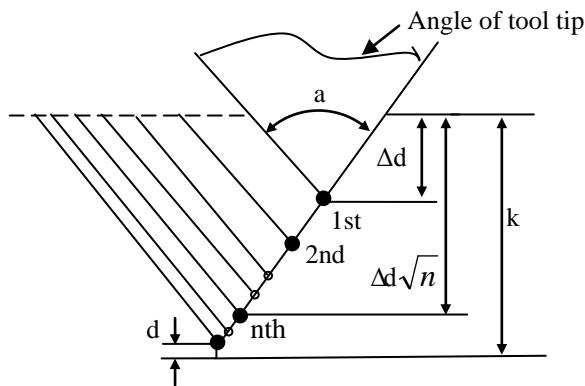

Figure 9.29 The depth of cutting
- U(d) The finishing allowance (radius) (Figure 9.29).
- V(Δdmin) The minimum cutting depth (radius). The cutting depth is Δdmin when the cutting depth ($\Delta d\sqrt{n} - \Delta d\sqrt{n-1}$) is less than Δdmin (Figure 9.29).
- F(L) Thread lead (same as G32)